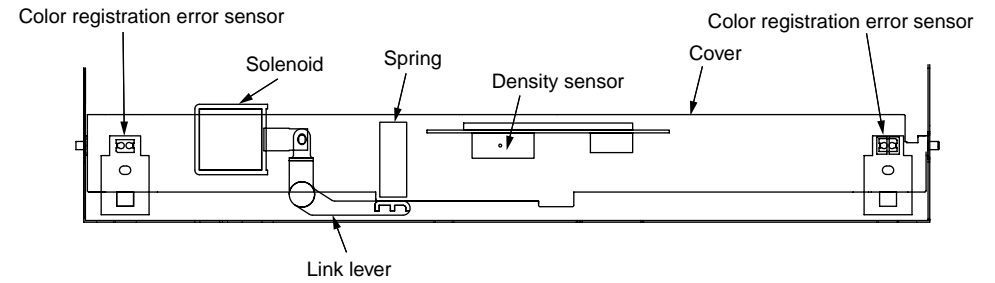

Fig. 2-9
1. When the solenoid is activated to ON as shown in Fig. 2-9, the link lever is moved to open the covers of the color registration error sensor and of the density sensor.